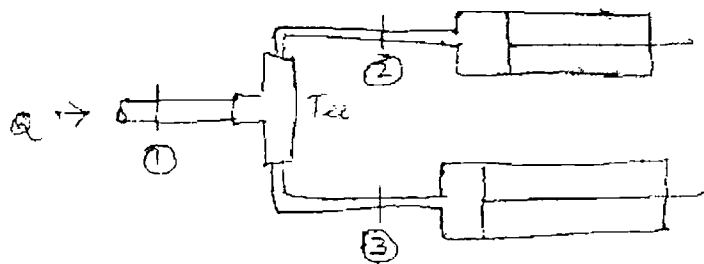

Fig. 1
- (b) (i) Explain how Bernoulli's equation can be used to determine the pressure drop between two stations in a hydraulic system. Assume that there are some number of bends, tees, elbows, globe and gate valves in between these two station separated by a long distance. (10)
- (ii) Oil with specific gravity 0.9 enters a tee, as shown in Fig. 1, with velocity $v_1 = 5$ m/s. The diameter at section 1 is 10 cm, the diameter at section 2 is 7 cm and the diameter at section 3 is 6 cm. If equal flow rates are to occur at sections 2 and 3, find V_2 and V_3 is m/s. (6)